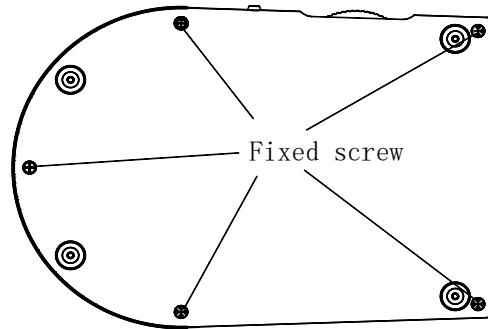

Fig. 8
B. Open the base: Laying the microscope steadily on the table,unscrew the fixed screw and pull out the bottom base cover. (Fig.8)